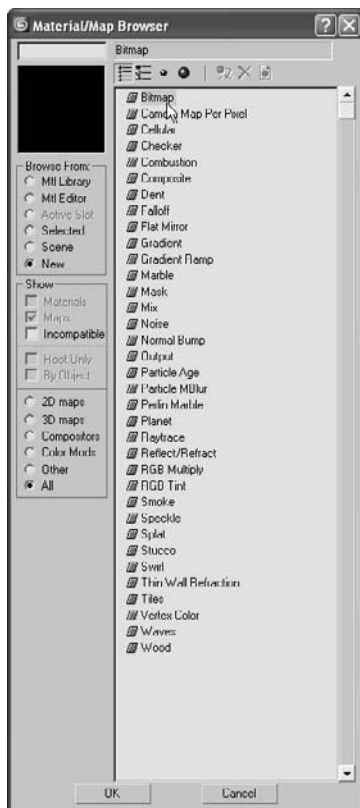

Figure 7.38
1. Go to the Material Editor and select the sample slot that is applied to the sphere. Go to the Maps rollout and click on the bar to the right of Diffuse Color, which is currently marked None. The Material/Map browser will appear. See Figure 7.38.